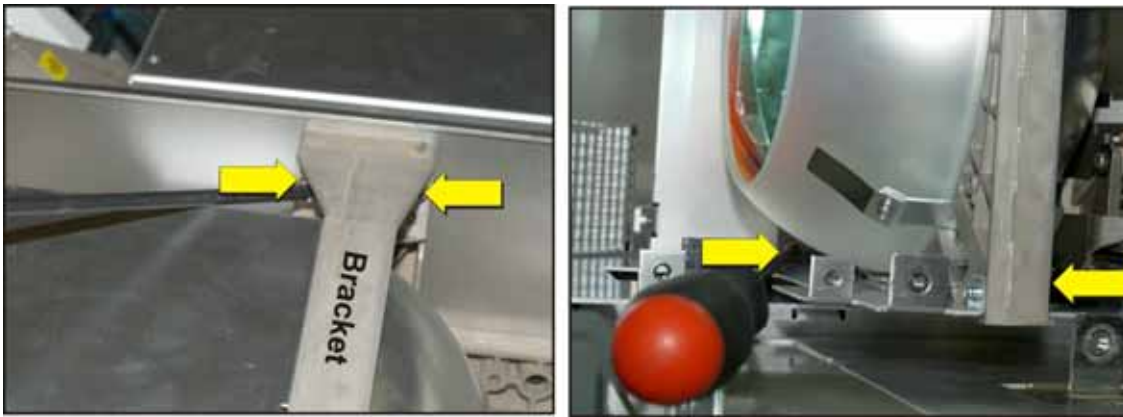

Figure 5-33 Remove Reflector
4. Using a 5mm hex key, remove the four screws securing the reflector. Three of these screws are located on the bracket outside the reflector. The fourth screw is located inside the casing below the reflector (**Figure 5-33**).